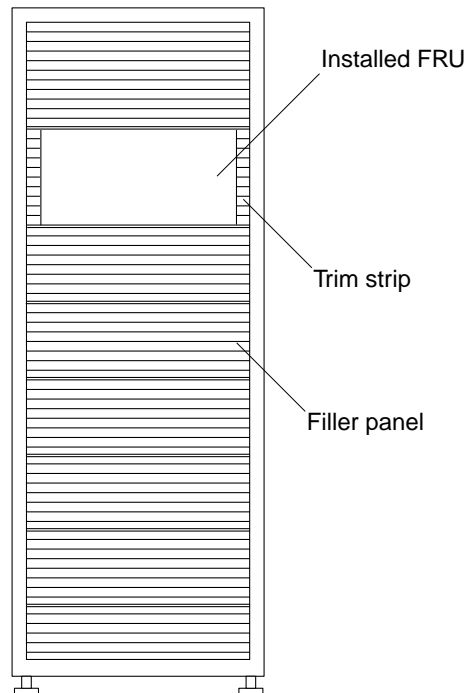

FIGURE 6-5 Filler Panel and Trim Strip Location
5. Remove the filler panel that covers the space where you will install the FRU (FIGURE 6-5).
9. Install the trim strips (FIGURE 6-5).
2. Remove the trim strips beside the FRU (FIGURE 6-5).
5. If you are not reinstalling the FRU, install a filler panel over its previous location (FIGURE 6-5).